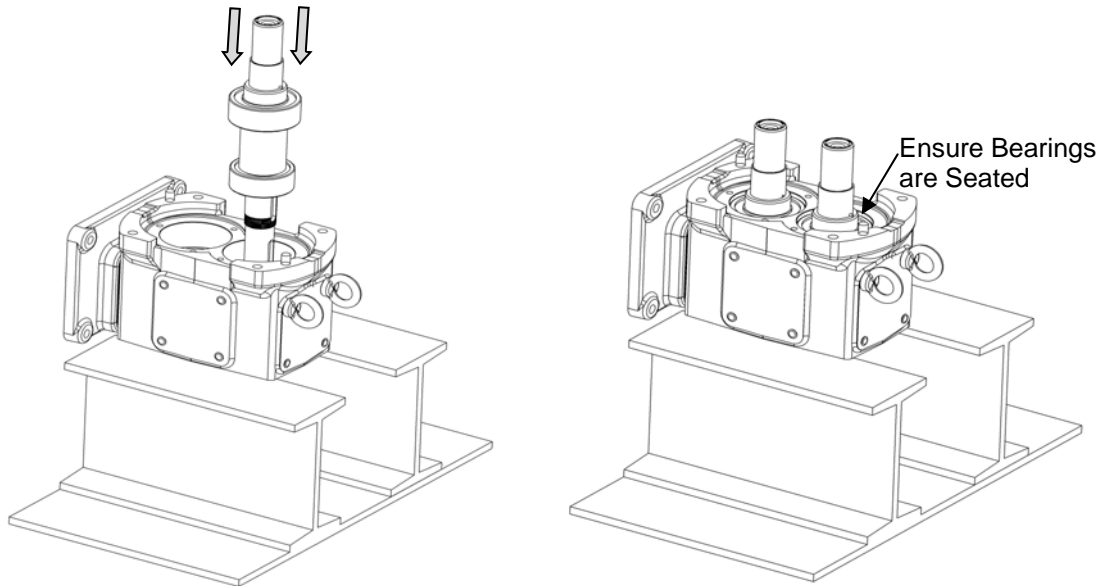

Figure 51: Pressing Rear Bearing onto Shaft
3) Set the gear case on a press with the fluid end side facing up. Apply lubricant to the outside of the bearings. Place shaft assembly (one shaft at a time) in the gear case with the rotor end facing up. Making sure that the drive and the short shafts are in the correct bores, press the shafts into the gear case until bearings are fully seated (Figure 51).